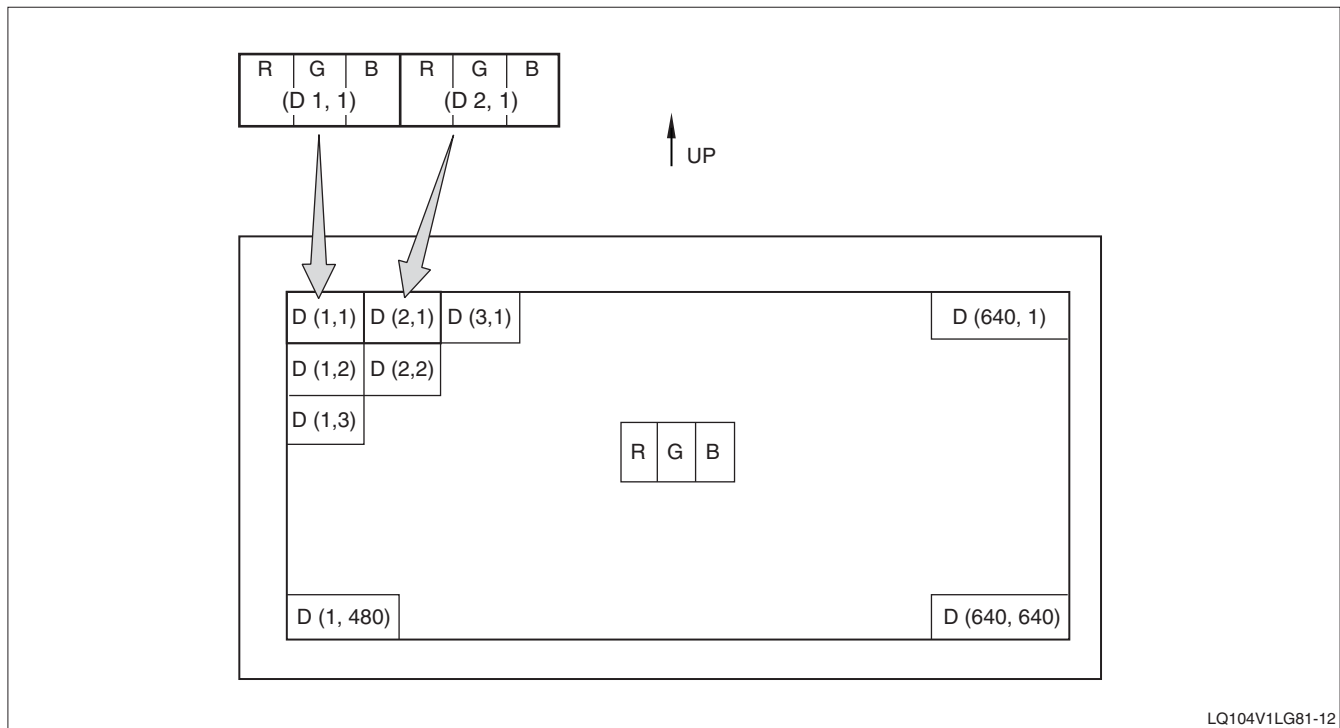

Figure 13. Signal Timing, Horizontal Rate
1. When ENAB is tied LOW, display start time is on Clock 104, as shown in Figure 13. Do not tie ENAB HIGH.